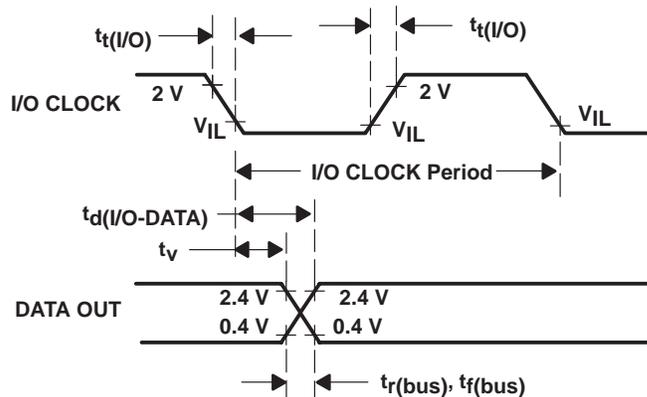

Figure 6. DATA OUT and I/O CLOCK Voltage Waveforms
- I/O CLOCK period = $1/(\text{I/O CLOCK frequency})$ (see Figure 6).